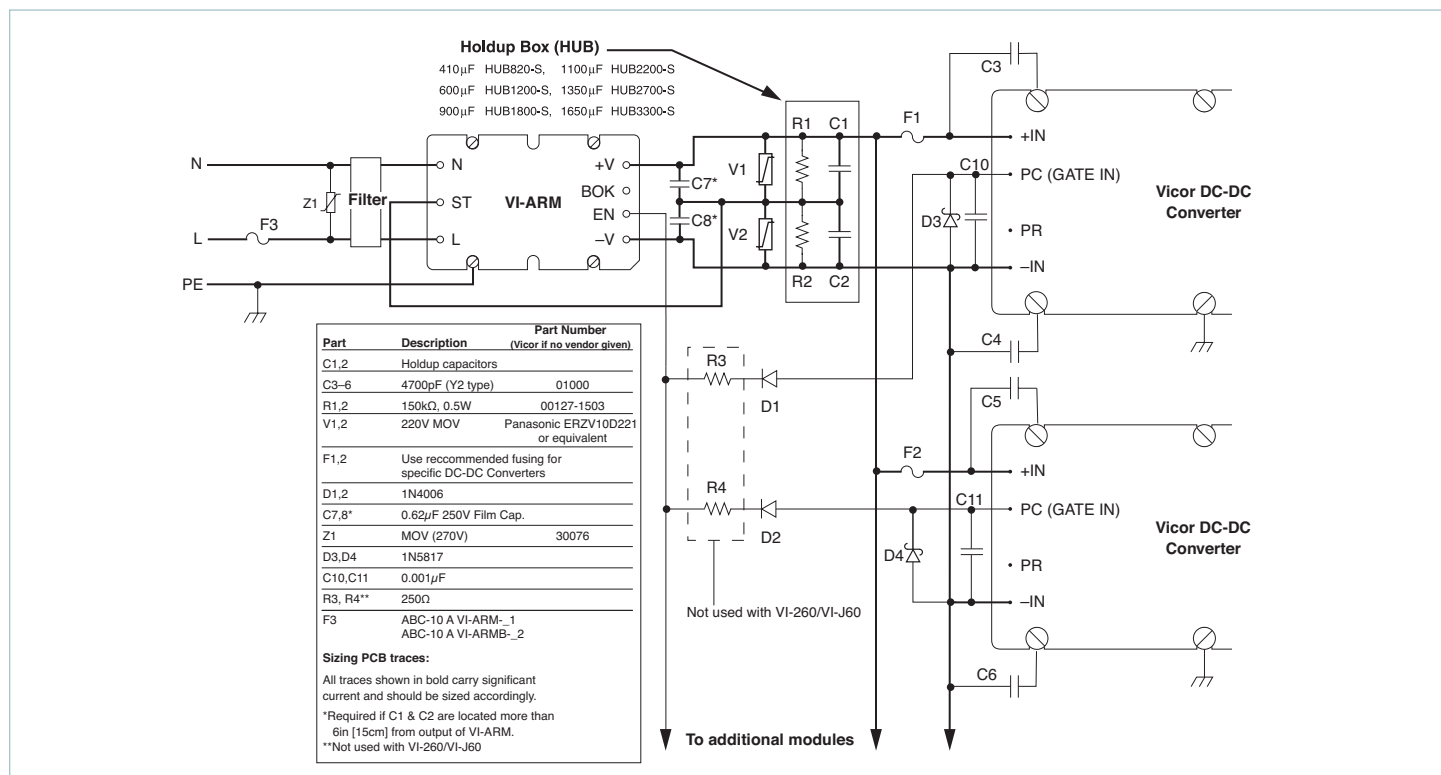

Figure 10 — Converter connections
**Strap (ST) Pin:** In addition to input and output power pin connections, it is necessary to connect the Strap pin to the junction of the series hold-up capacitors (C1, C2, Figure 10) for proper (autoranging) operation. Varistors across the capacitors provide input transient protection. The bleeder resistors (R1, R2, Figure 10) discharge the hold-up capacitors when power is switched off.
It should be noted that the series combination (C1, C2, Figure 10) requires each capacitor to be twice the calculated value, but the required voltage rating is reduced to 200V.